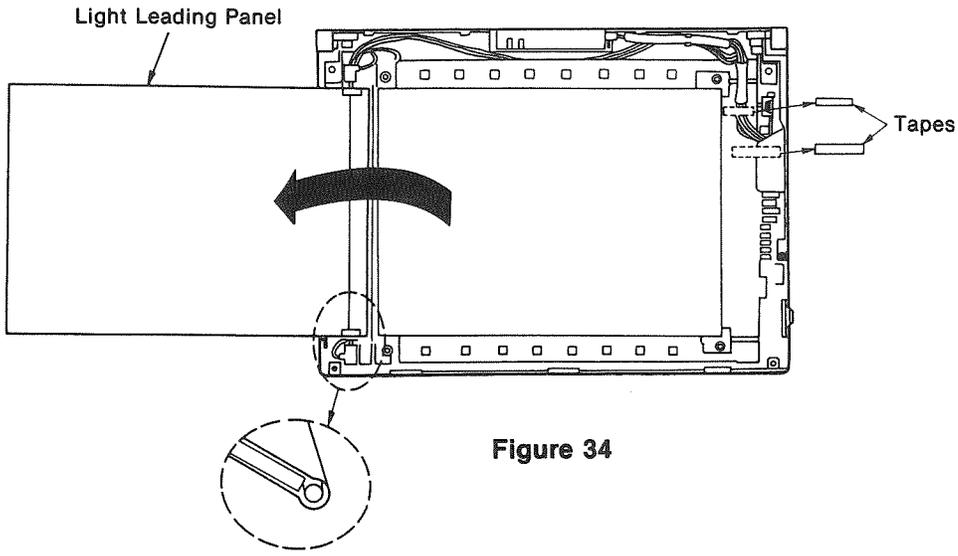

Figure 34
(7) Carefully turn over the light leading panel as shown in Figure 34.
(8) Peel off two pieces of tape fixing LCD cable and insulation plate as shown in Figure 34.